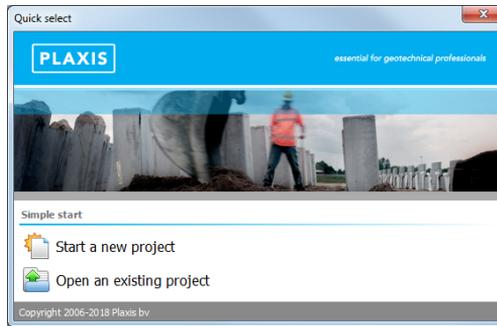

Figure 1.2 Quick select dialog box
- Start the PLAXIS 3D program. The *Quick select* dialog box will appear in which you can select an existing project or create a new one (Figure 1.2).